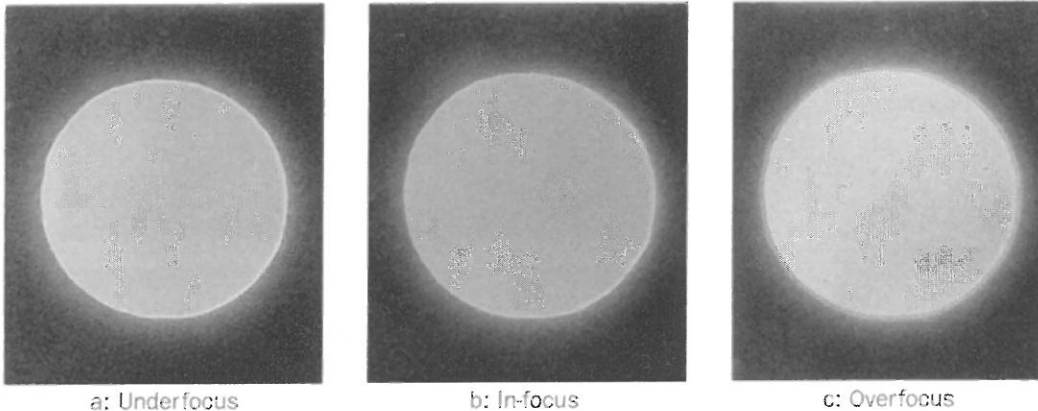

Fig. 5.25 Focusing using Fresnel fringes
1. Obtain the sharpest image (rough focus adjustment) by adjusting the OBJ FOCUS COARSE knob (R1-⑦).
- If the specimen is a film hole, turning the FINE knob counterclockwise makes a high-contrast fringe (Fresnel fringe) appear inside of the hole along the contour, as shown in Fig. 5.25 - a. Such defocusing is called "under focus". As the defocusing increases, the Fresnel fringe becomes wider.
- On the other hand, as shown in Fig. 5.25-c, when the FINE knob is turned clockwise from a focused condition, a bright fringe (Fresnel fringe) appears outside the boundary. Such defocusing is called "over focus". As the defocusing increases, the distance between the contour of the hole and the fringe becomes larger.
- The width of the fringe with a strong brightness that follows the shape of the hole becomes thinner. The state where the contrast has decreased the most and the fringe has disappeared as in Fig. 5.25-b is called "Just focus".